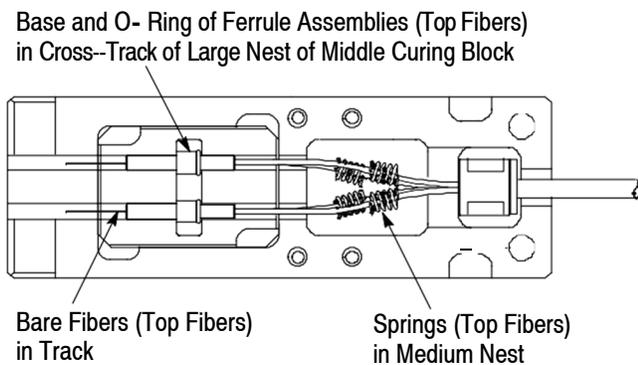

Figure 6
7. Refer to Figure 6, and perform the following for one of the *top* fibers:
8. Repeat Step 7 for the remaining top fiber. See Figure 6.